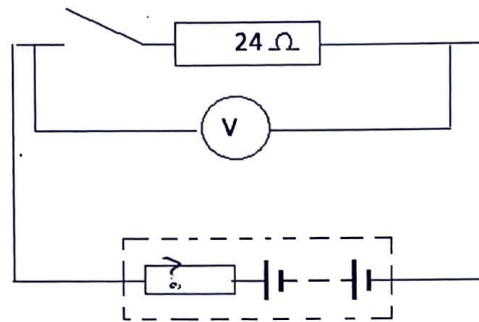

FIG Q9
- (a) the power output for the low setting; (4)
- (b) the power output for the high setting. (4)
9. The circuit in FIG Q9 has a voltmeter as shown. When the switch is open the reading on the voltmeter is 30 V, when the switch is closed the voltage drops to 26.67 V.